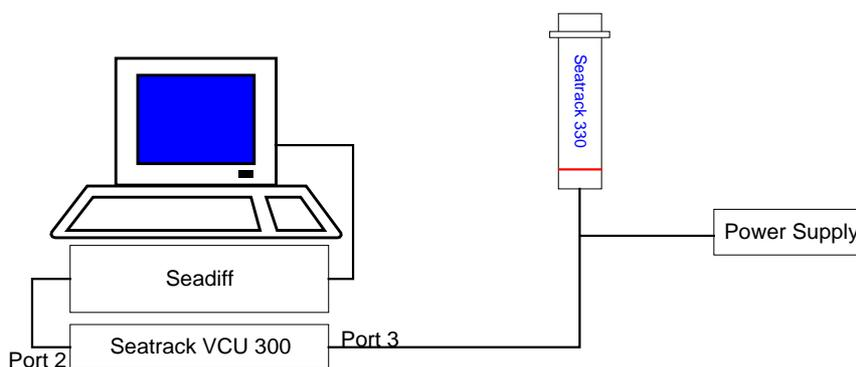

Figure 9 Configuring Seatrack 330 with RS-485 serial line
1. Connect the Seatrack 330 unit as in Figure 9 with power between 9 and 13 V DC. The unit will start automatically when power is connected. The VCU 300 needs 100-240 V AC.